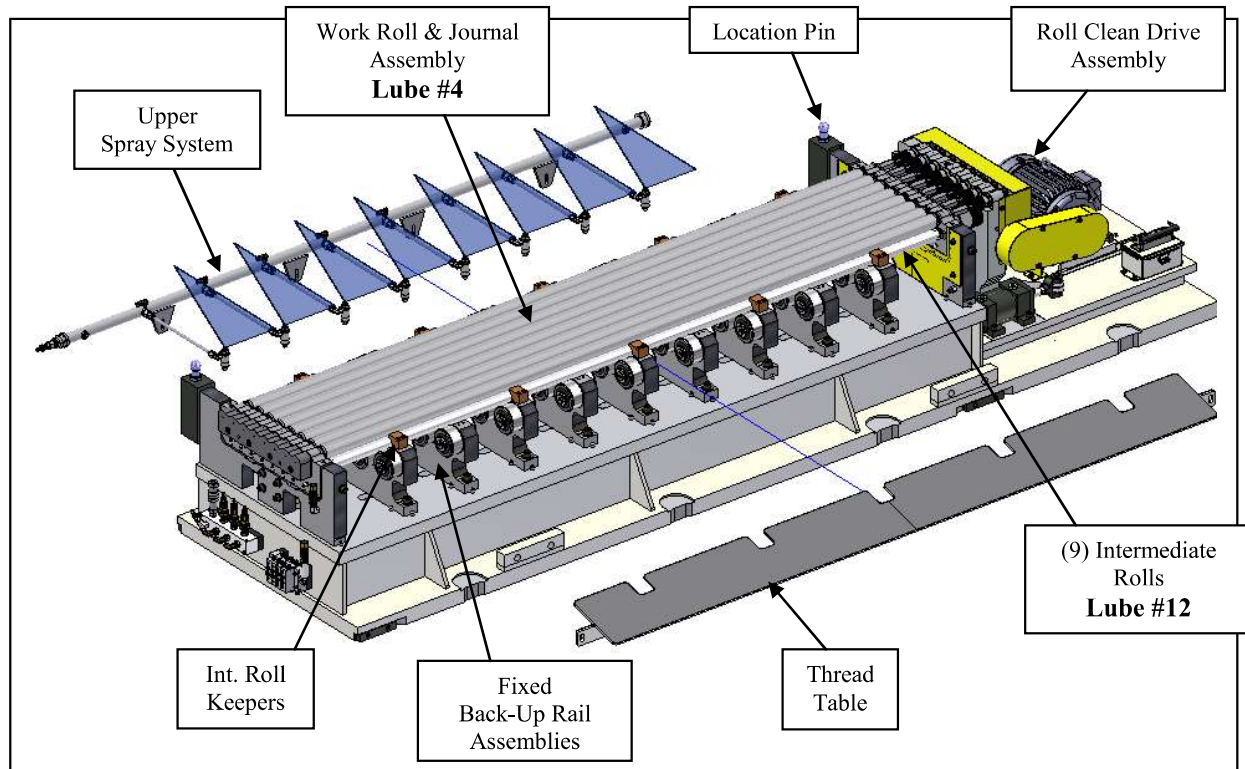

Figure 6.1 1.75" Dia. Upper Cassette Assembly
The upper cassette (Figure 6.1) consists of (9) flights of fixed back-up bearing supports. The back-up bearing rails support (8) work rolls and (9) intermediate rolls. The intermediate rolls are used to prevent shadow marks from forming on the strip. The upper and lower work roll journal bearings are greased automatically through a lubrication system. The grease is metered based on how much footage is run through the machine.